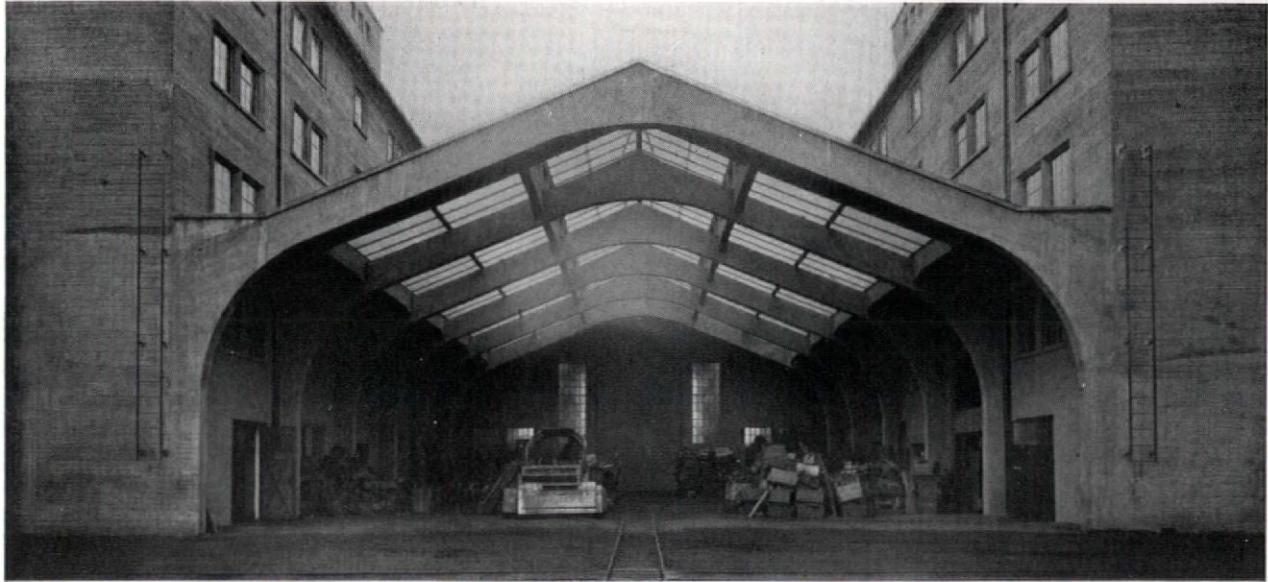
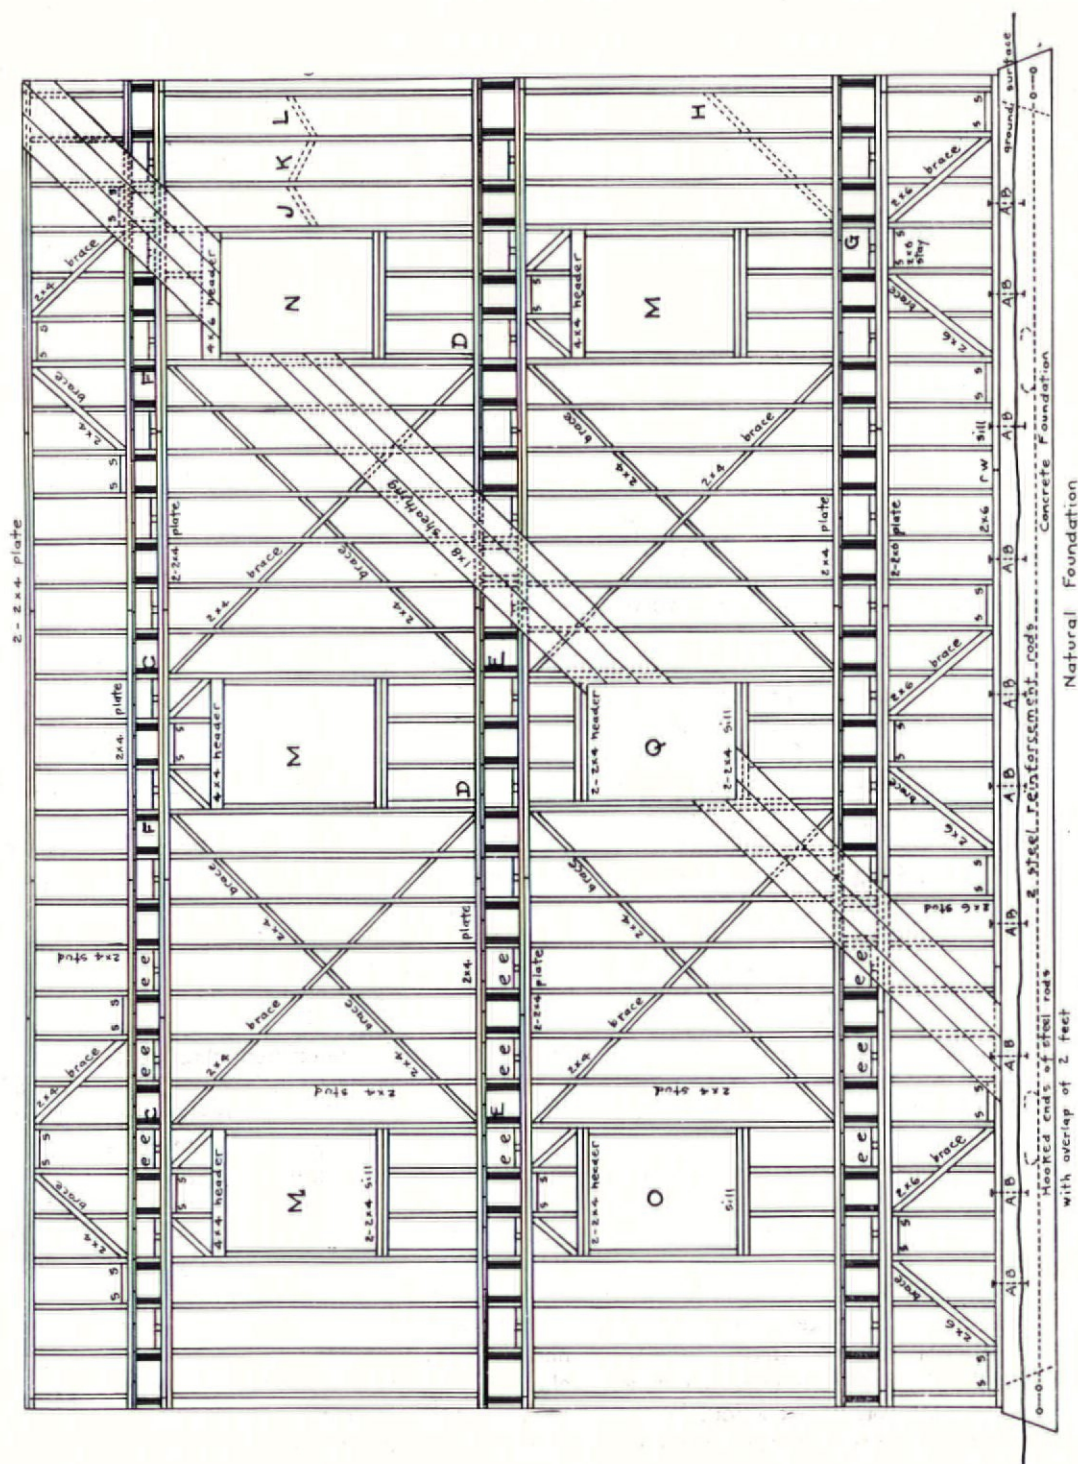

Fig. 3. Covered Lumber Court, Kassel
FIG. 8. CONSTRUCTION DETAIL OF THE ELEVATION OF A WOODEN FRAME BUILDING
is reminiscent of use of the old materials, just as the V-frame (Fig. 3) is due to the traditional type of roof. Gravity demanded vertical piles of stones or bricks to avoid centering; wood and steel encouraged angular outlines, but "liquid stone" requires no straight lines. Its form can express the structural facts: sides and top, walls and roof are one. The curved haunch (Fig. 3) is much more pleasing than the angular haunch (Fig. 2), which is a product of the "wood centering" style.
Framing. When the height of a building does not exceed two stories, two methods of arranging floor joists and wall studs are possible,—(1) "balloon" construction, and (2) "story" construction. In balloon construction the studs of the outside walls are continuous from the sill of the concrete foundation to the plate on which the rafters rest. In story construction the frame is erected one story at a time, the continuity of the studs being interrupted at each floor level by wall plates and floor joists, as illustrated in Fig. 8. Balloon construction is not feasible for a structure of more than two stories because of the excessive lengths of studs required, and because the cost of erection would greatly exceed the cost of erection by stories. After describing the two types of construction, their relative merits will be discussed. Erection by stories is employed much more extensively than balloon construction, because it is very much easier to execute from the contractor's point of view.
Framing of Floors and Walls in Story Construction. *Floors.* Referring to Fig. 3, on page 268, THE ARCHITECTURAL FORUM for August, 1928, the joists *fg* at all floors and roof should be anchored very securely to the plates, *EF*, *AB* and *GH*, rather than be merely "toe-nailed," a common practice,
which produces a very weak joint. The structural advantages of such adequate anchorage in case of earthquake or hurricane are obvious. A very effective joistplate joint can be arranged by using a 2 by 6-inch pine splice about 2 feet long, as shown by *e* in Fig. 3, and by *e* also in Fig. 8 of this article. To prevent splitting, the joist should be drilled for four 20-penny nails, properly staggered from joist to splice, and the splice should be drilled for four 20-penny nails to the plate. Thus all nails are arranged with reliable bearing so as to develop their lateral strength in the most effective manner, because at the junction of any two pieces of timber the forces act perpendicularly to the axes of the nails. Wherever great tenacity is required in a nailed timber joint, the designer should arrange the nails and timbers in a similar manner.
In order to insure lateral support, all the joists should be solidly bridged with 2-inch pine, extending from the tops of the splices to the tops of the joists, along all supporting plates, as in *EF*, *AB* and *GH*. At the outside walls, this bridging should be placed just inside the inner line of the wall plate; it will then serve as a header for nailing the ends of diagonal floor boards, which should be run just to but not under the plate. Vertical shrinkage in the floor boards will then have no effect on the stucco. The cross-bridging of joists, as along lines *JK* and *LM* in Fig. 3, is needed to stiffen the floor. This it accomplishes by distributing any concentrated vertical load to at least three adjacent joists, provided the distance between lines of bridging does not exceed 6 feet, approximately. Such cross-bridging would be much more efficient than it frequently is if it were made 2 by 4 inches in section instead of 1 by 4 or 2 by 3 inches, if care were taken to miter the ends of cross-bridging accurately against the sides of the joists, and if the pieces were drilled for two 12-penny nails at each end instead of being rendered practically valueless because of splitting by driving in two 10-penny nails. The 1 by 6- or 1 by 8-inch flooring boards should be laid at an angle of 45 degrees with the sides of the house; two 8-penny nails at each joist are sufficient. Where the floor plan is unsymmetrical, or the floor area is unsymmetrically loaded, earthquakes tend to twist the entire frame about some vertical axis. When the walls are thoroughly braced, diagonal floor boards are of greater assistance than floor boards at right angles to the joists in developing resistance to such twisting. Diagonal floor boards are more effective also because of the bond they produce between walls and partitions that meet at right angles.
16 inches. In buildings of one or two stories, 2 by 4-inch studs throughout are sufficient, except that the underpinning of a two-story house should be composed of 2 by 6-inch studs; for three-story structures, 2 by 6- or 3 by 4-inch studs should be used in the first story as well as for the underpinning. Size 2 by 6-inch is preferable to 3 by 4-inch, because there will be relatively less injury when the studs may be notched for plumbing pipes. The upper plate of every story should consist of stud-sized timber, doubled; this facilitates lapping at corners and makes possible long, well nailed overlaps for all straight splices, as shown in Fig. 8, page 746. In each side of each story there should be at least two lines of stud-sized diagonal bracing sloping in each direction, as *CD* and *EF* in Fig. 8. To be effective, this bracing should make an angle with the horizontal not greater than 45 degrees; the smaller the angle, the more effective the bracing, but the line of every diagonal brace should extend continuously from floor plate to ceiling plate, because a brace like *GH* in Fig. 8 is only about 40 per cent as efficacious as a brace like *EF*. In the stories above the underpinning, it is better to fit the sections of a diagonal brace between the studs, as shown in Fig. 8, than to cut a great number of studs in order to make the diagonal brace one continuous timber. Stays will then not be necessary at the ends of the diagonal brace which terminate at the plates. Some designers advocate letting into the studs a 1 by 6-inch diagonal brace, but the writer prefers fitting in between the studs the sections of each brace, as just described, because the letting-in involves more tedious carpentering and unnecessarily reduces the cross-section of the studs braced. The studs should not be "toenailed" to the plates. Instead, two 20-penny nails should be driven into each stud through each plate; at its ends, to avoid splitting, the plate must be drilled for these large nails. At intervals, 20-penny nails should be driven through the single-stick lower plate to the floor joist system below. At all corners the end studs of both walls should be securely nailed together by 20-penny nails. The sections of diagonal stud braces should be drilled to receive two 12-penny nails at each end, otherwise serious splitting will occur. Depending on the height of ceilings, one or two lines of stiffeners, like *J*, *K* and *L* in Fig. 8, are necessary where diagonal sheathing is used, because these support the studs laterally against the shrinkage stresses developed when the sheathing dries, and thus reduce the possibility of there being cracks in the stucco. Such stiffeners are necessary also in all partitions. The individual sections should be mitered in, so that wedging action will make the joints very tight. Whenever walls or partitions meet, the opportunity should never be neglected to attach continuous studs in each with 20-penny nails. The drilling to prevent injurious splitting of all such pieces as sections of diagonal braces, stays on underpinning plates, joist-plate splices, joist cross-braces, wall stud stiffeners, etc., can be done
Framing Openings. So simple is this matter that no mention would be made of the subject were it not for the fact that the writer has often seen openings framed as poorly as that shown at *Q* in Fig. 8, where the header, which takes considerable loading from the floor above, is supported only by "toenailing" at its ends, instead of being supported positively in the manner shown at *M* and *N*. The ends of the sill also should be positively supported, as shown at *M* and *N*, rather than be merely nailed, as at *O* and *Q*. A single-piece header, as at *M*, because it is stiffer, obviously will support more load than the two-piece header of the same size at *Q*. The trussing above the header at *M* affords a much stiffer frame than the use of merely a deeper header, as at *N* only if the diagonals are well fitted and the center stay is snugly wedged into position. For wide openings, if headroom permits 45-degree angles for the diagonals, trussing is preferable to a very deep joist header, because the shrinkage and time sag in the joist header, by withdrawing support from the floor above, will cause cracking of the stucco and interior plastering. In hurricane areas, very substantial shutters must be provided for all glass openings, because it is doubtful if even small panes of heavy glass in heavy metal casement frames could survive the impact of all the debris flying in the air during a storm. If the architectural design permits, rolling steel shutters are very efficient and, when not in use, may be completely concealed. If wooden hinged shutters are employed, the fasteners and hinges must be of heavy wrought metal attached by bolts, not screws, and the hinges should be bolted, not to the sheathing, but through stucco and sheathing to wall studs set for the purpose.
If the shrinkage in the outside wall at the joists could be eliminated from story construction, this type of framing would be preferable because of the simplicity of erection from the contractor's point of view and because the details of the framing in various stories can be arranged independently with greater ease. The elimination of this shrinkage can be accomplished in two ways,—(1) the studs of any one story may be run down alongside the floor joists of that story directly to the ceiling plate of the story below; (2) separate uprights of stud size may be adjacent and nailed to the joists wherever the joists rest on the plates of the outside walls or interior partitions, as shown by the sections in solid black in Fig. 8. This amounts to introducing a row of dwarf studs whose height is just equal to the depth of the floor joists. When the joists have shrunk, these dwarf studs will transmit the wall load from floor plate to ceiling plate, and thus prevent the shrinkage of the joists from cracking the stucco. The latter method is preferable to the former. The only remaining possible sources of considerable shrinkage in the frame are the ceiling and floor plates and where interior partitions of different stories do not lie in the same vertical plane, for then the dwarf studs are of no avail. If special care is exercised to get well seasoned plates, the shrinkage from this source should not be a serious matter. If the exterior architecture involves a half-timber design, an exposed timber belt course, interrupting the stucco at the level of the joists, will automatically allow for shrinkage in the plates. But in neither balloon nor story construction is there a simple way of overcoming the effects of shrinkage where interior partitions do not lie in the same vertical plane, excepting by the use of kiln-dried joists, because it is usually not economically feasible to run the studs of interior partitions down to a metal plate support at the bottom of the
Sheathing. Tests made by the writer on numerous wall panels at the Civil Engineering Laboratory of the University of California, and published in the *Bulletin of the Seismological Society of America*, December, 1925, under the title "Wall Bracing in Timber Frame Buildings," showed that when 1 by 8-inch sheathing was nailed solidly to the studs at an angle of 45 degrees with the horizontal, instead of horizontally, the resistance of the wall to earthquakes and hurricanes was increased about 40 per cent, provided the studs were braced also by diagonal stud braces, as shown in Fig. 8. Since such diagonal sheathing bonds the framework of the several stories and the underpinning to such an extent as to cause the entire building to act as a unit, it is strongly recommended wherever resistance to earthquakes or hurricanes must be considered. There should be two 8-penny nails in each 8-inch board at each stud, at each floor and ceiling plate, at each diagonal brace, and particularly at the bolted foundation sill, because diagonal sheathing, as already said, is very effective thus to anchor light timber frame buildings to their concrete foundations to prevent dislodging by a hurricane.